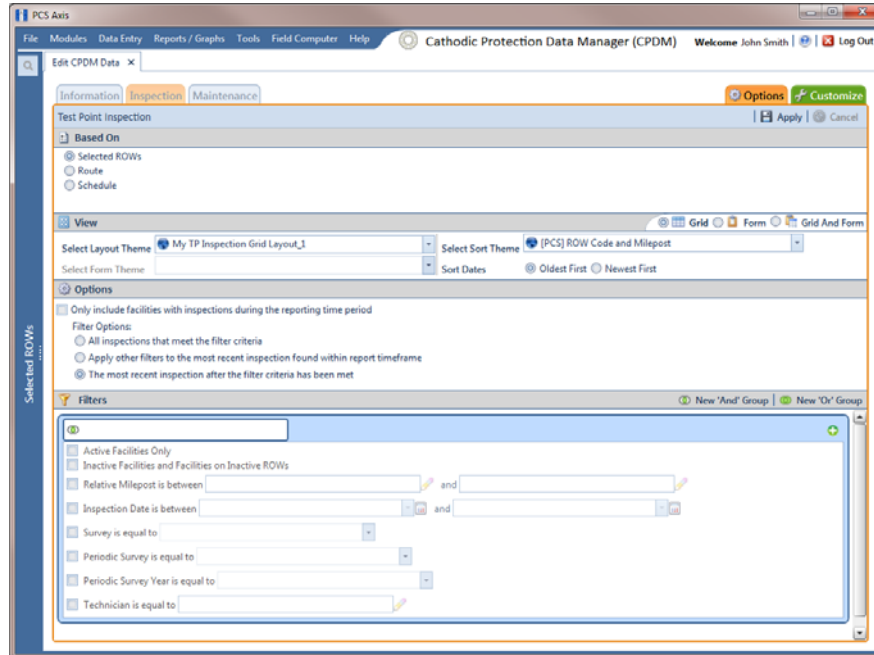

Figure 7-52. Options
- 4** Click the **Options** tab  to open the options page. In the *View* group box, click the option labeled  **Form** or  **Grid And Form** and then click **Apply** (Figure 7-52).